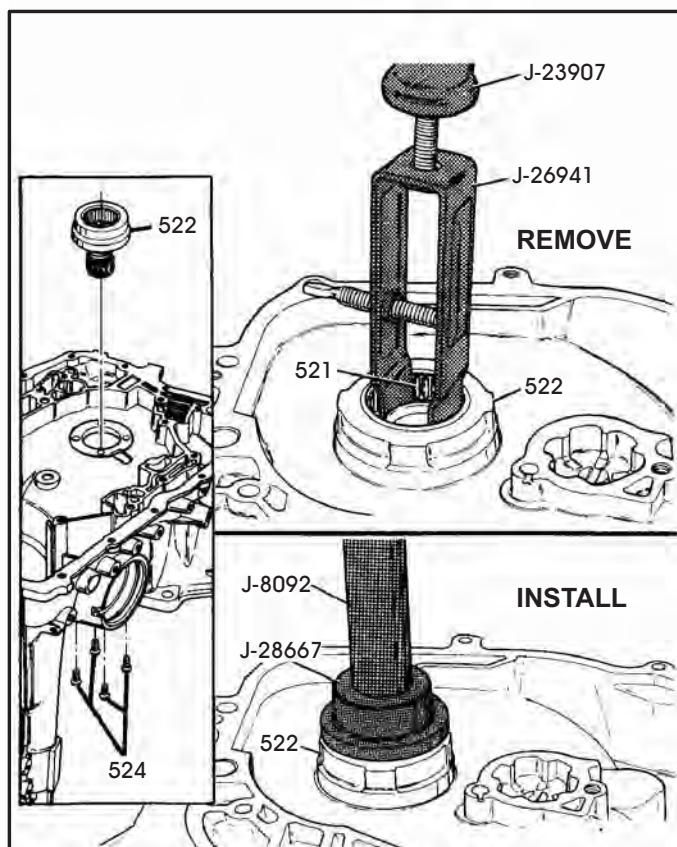

Figure 77
16. If it becomes necessary to replace the drive sprocket support bearing, use the special tools and procedures in Figure 77.